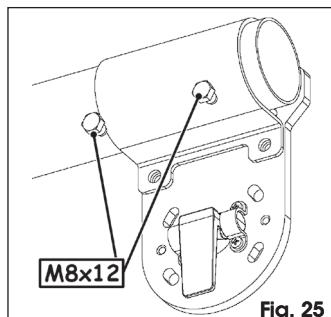

Fig. 25
5. Complete securing the rod with the other two screws, Fig. 25.